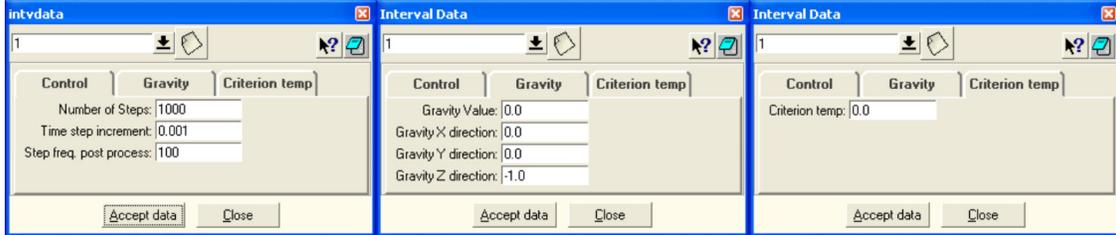

Figure 15: The Control, Gravity and Criterion temp tabs of the Interval Data dialog box
2. The **Gravity** and **Criterion temp** tabs should be left at their default values (Figure 15).